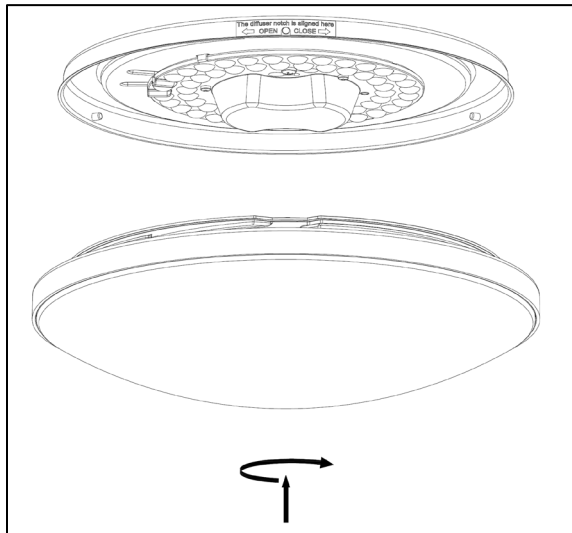

Figure 12
- Reinstall the diffuser back into the housing assembly by alignment with notch, then secure it by rotating in the Close direction till stop and locked (See Figure 12).